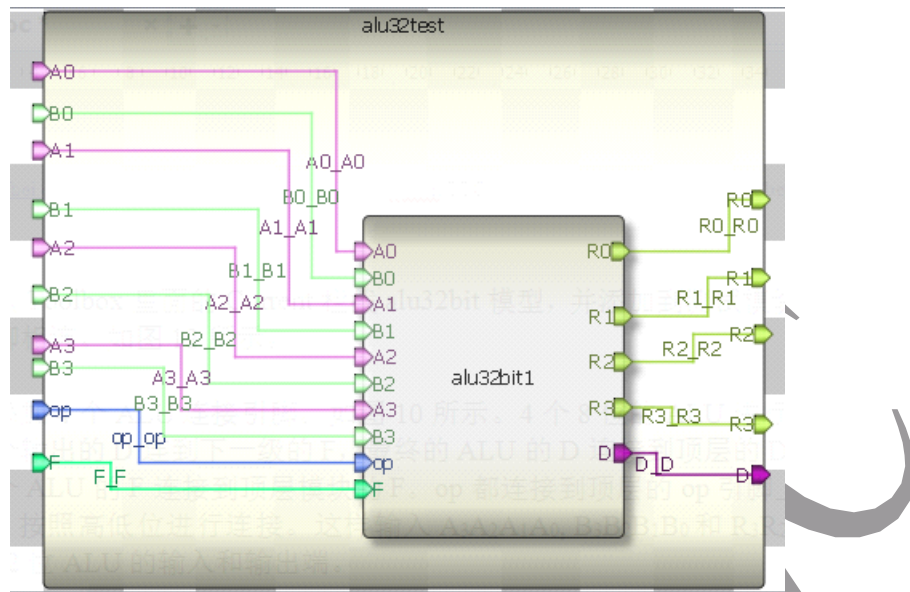

Fig. 12. 32 bit ALU testbench connection
- 5) Add “alu32bit” model from “Current” category in Toolbox to testbench. Connect corresponding ports as fig. 12.